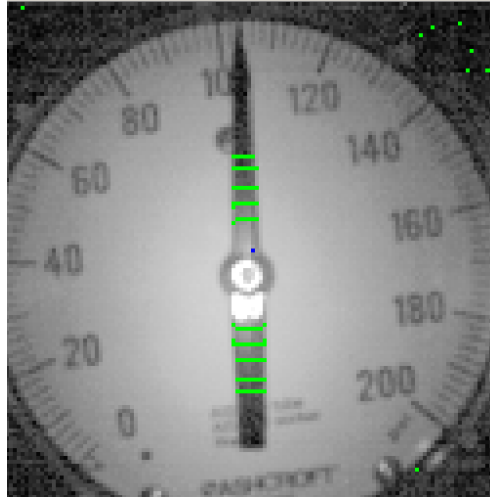

Figure 33. Needle with Reverse Taper
- b. If the needle has a slight or even somewhat reversed taper, then enable Subtle Needle Taper, to help ensure reliable readings. See Figure 33 for an example of a reverse tapered needle.